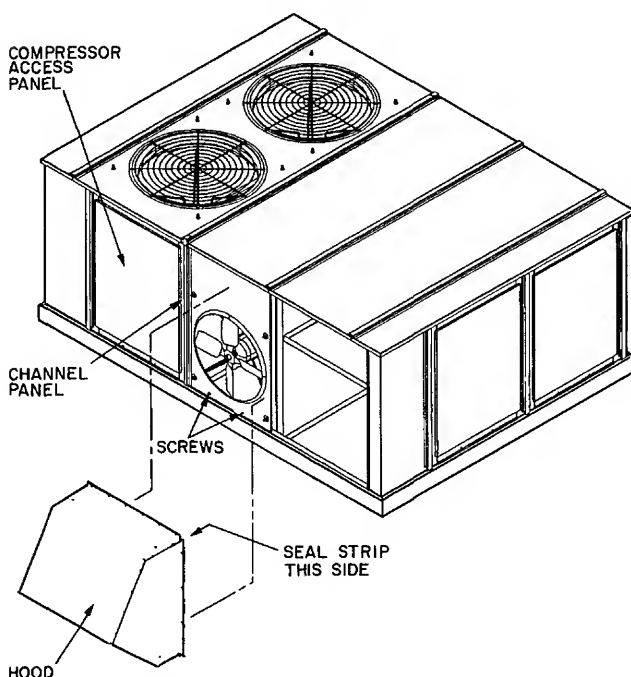

Fig. 12 — Power Exhaust/Barometric Relief Hood (50LJ Unit Shown)
1. Remove the lag screws holding hood assembly to shipping skid. See Fig. 12.